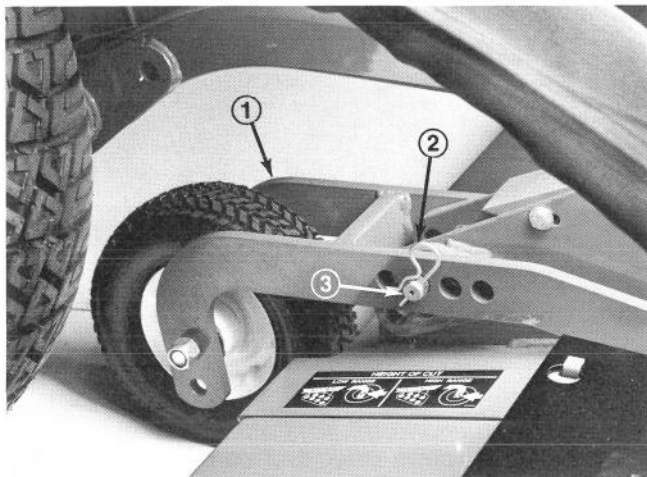
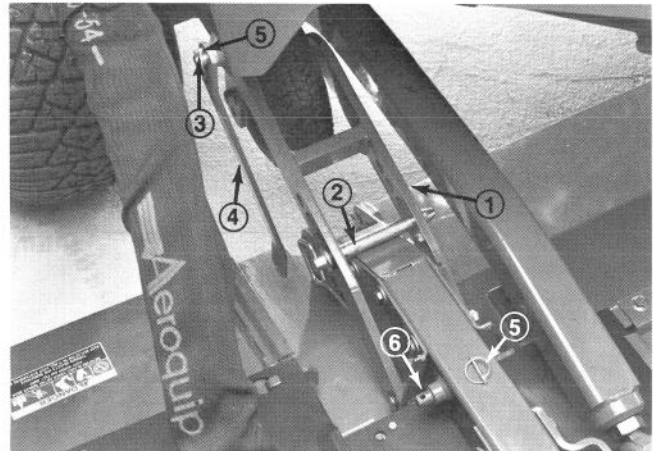

Figure 55
Figure 56
3. Remove hairpin cotters and clevis pins from the (2) rear castor assemblies (Fig. 55). Set the left hand clevis pin aside and insert the right hand clevis pin into the most forward holes in the castor wheel arm on the right side of the unit (Fig. 56). The castor arm and pin should be resting on top of the unit.
5. Fit deck tilt link over weldment on the right side of traction unit and secure with klik pin. Position link so it clears when cutting unit is raised. Keep remaining klik pin handy to secure opposite end of link to cutting unit arm weldment (Fig. 56).